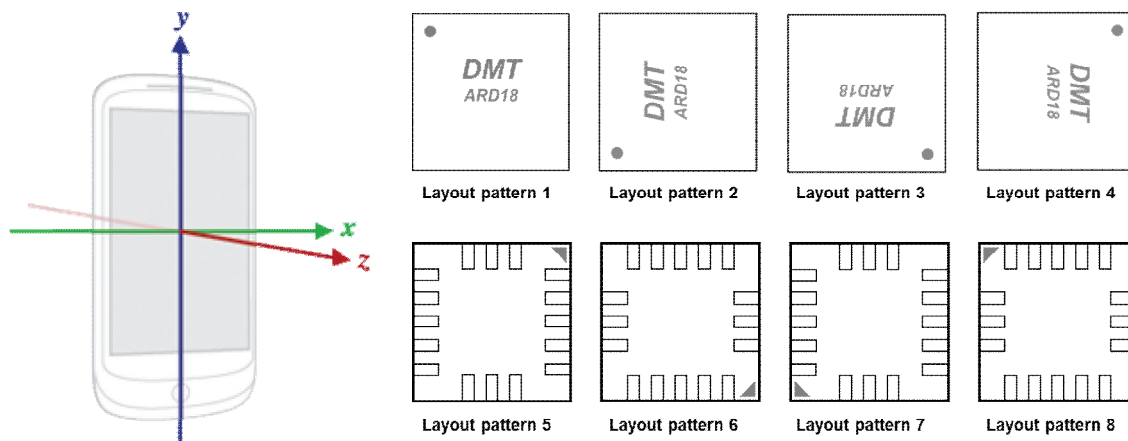

Figure 1: Android SensorEvent Coordinate System and DMARD18 Layout Patterns
2. Specify the g-sensor layout by defining one of the following macro in "dmt030818.h". The example code uses layout pattern 1. See Figure 1 for other g-sensor layout pattern orientations.
The coordinate system used by the Android SensorEvent API is defined relative to the screen of the phone in its default orientation, as shown in the Figure 1. Specify the g-sensor layout to one of the layout patterns illustrated below.